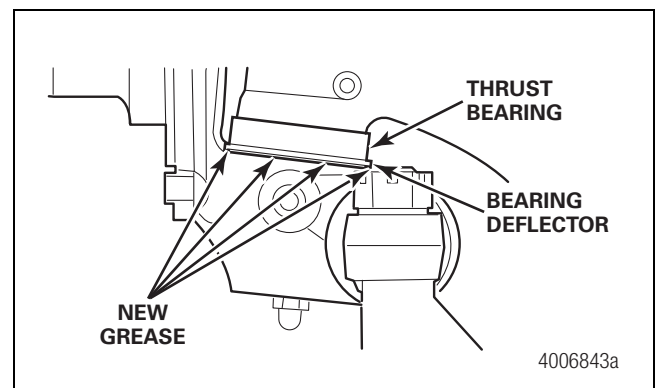

Figure 5.20
6. Apply lubricant into the bottom grease fitting until new grease appears from under the lower lip of the bearing deflector. Figure 5.20.